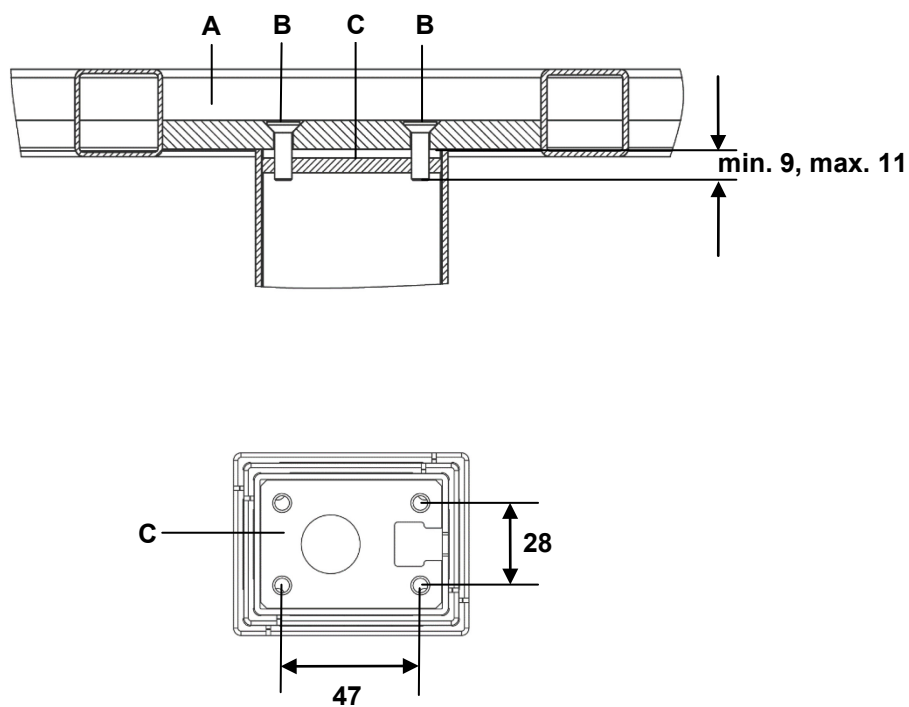
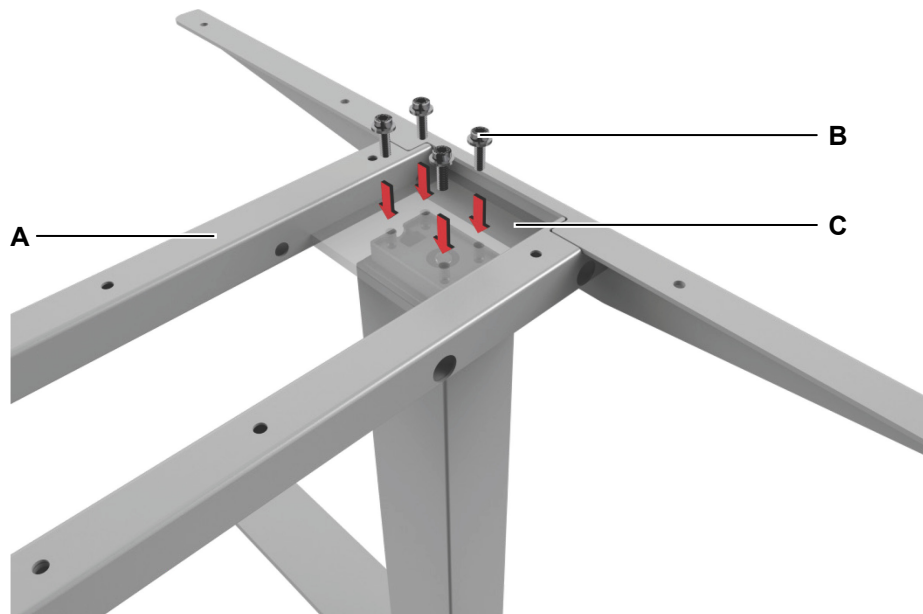

Figure 19 Mounting the table frame (dimensions in mm)
Figure 20 Mounting the table frame
- ▶ Use M6 bolts (with suitable length and strength grade 8.8), as shown in Figure 19. The tightening torque is 10 Nm.
- 1 Set the table frame so that the holes are over the lifting column. Use four screws to attach the table frame to the head end of the ID21 lifting column, as shown in Figure 20 (tightening torque is 10 Nm). The mounting dimensions are shown in Figure 19.